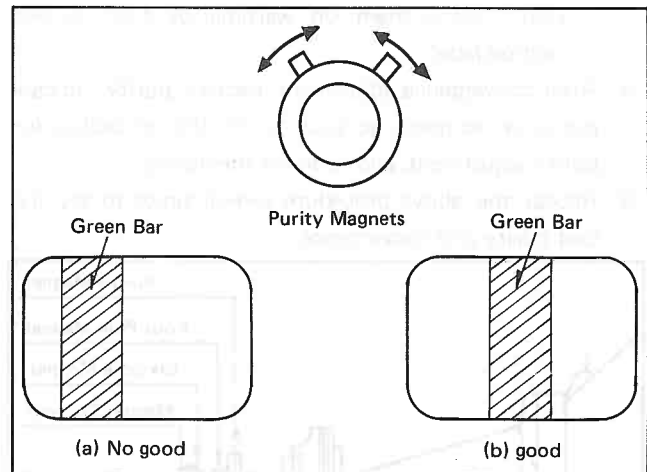

Fig. 43
7. Remove the silicone sealer and adjust the purity magnets so that a green field is obtained at the center of the screen as shown in Fig. 43.